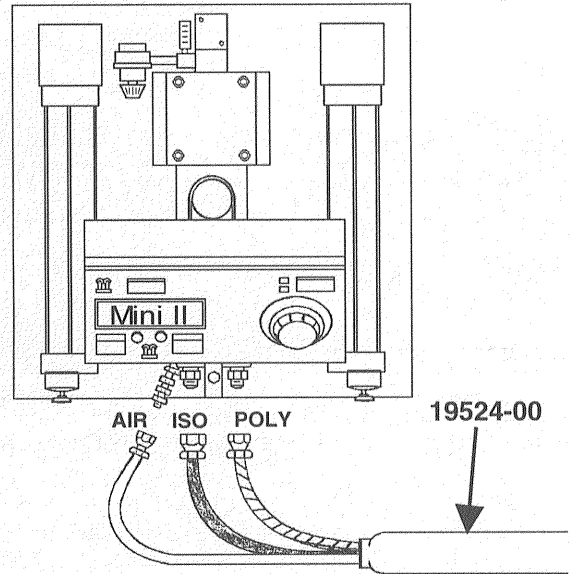

Fig. 1
1. Connect Hose assembly, P/N 19524-00 to Isolation Block on base at front of unit. The swivel fittings on the Hose assembly are sized differently and will attach only one way. (Match like sized fittings.) Also connect the Air Hose assembly at this time. It should be attached to the fitting located on the lower left side of the isolation block. (see Fig. 1)